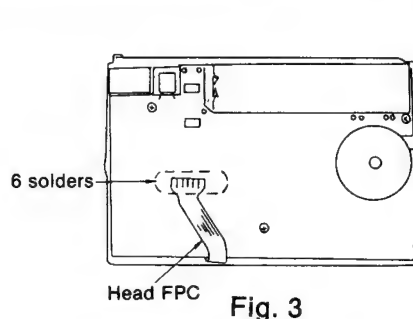

Fig. 3
2. Remove 6 solders (Head FPC). (See Fig. 3.)